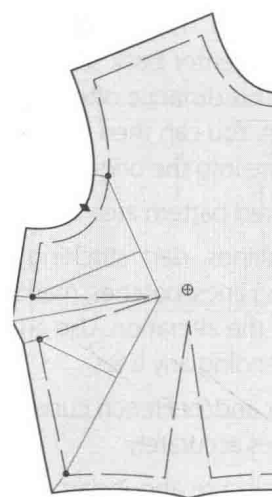

FIGURE 6.31c
3. Draw clip lines across the seam allowance at the end of each guideline (see Figure 6.31c).